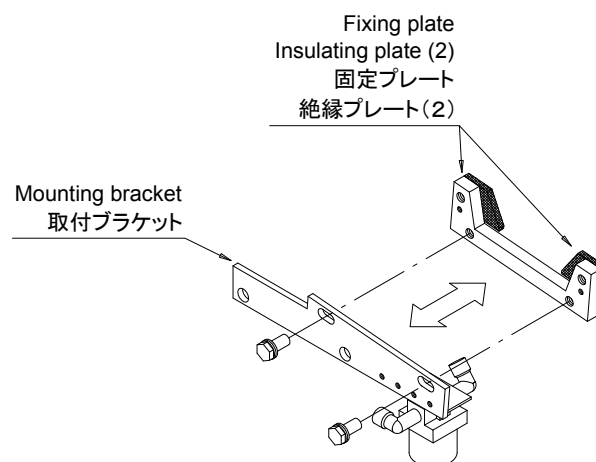

Fig. 2.3 Preparation for mounting of fixing bracket (Procedure (1))
- (1) Referring to Fig. 2.3, dismount the mounting bracket and fixing plate from the fixing bracket once.